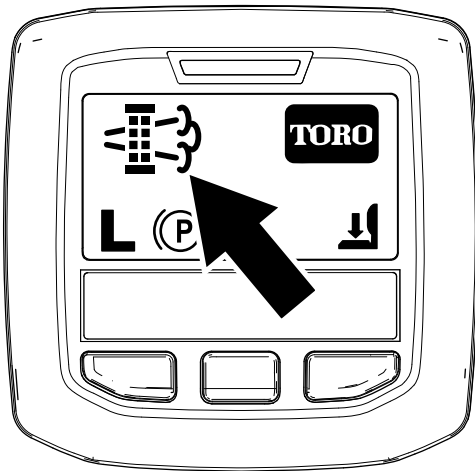

Figure 39
- When the engine computer requests either a parked regeneration or a recovery regeneration, the regeneration request icon (Figure 39) displays in the InfoCenter.